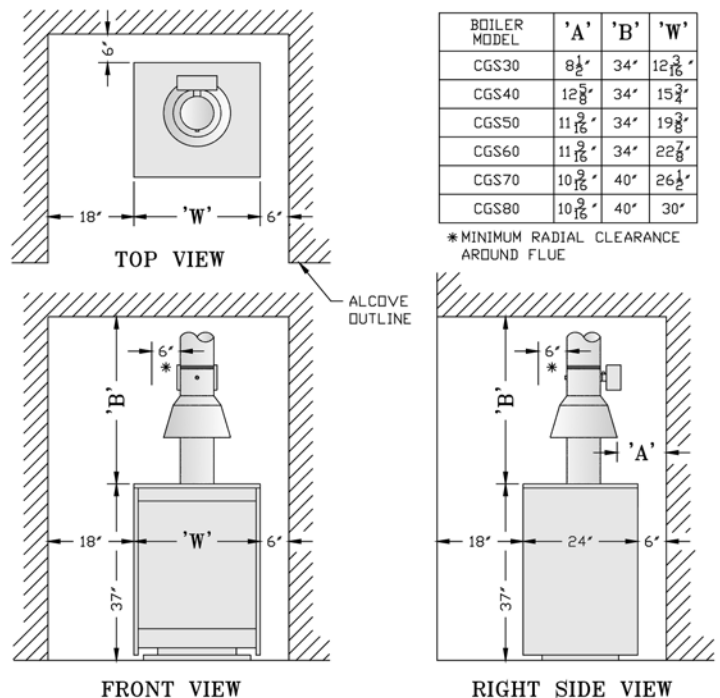

Figure 2: Minimum Clearances to Combustible Construction for Alcove Installation
- A. **Inspect shipment** carefully for any signs of damage. All equipment is carefully manufactured, inspected and packed. Our responsibility ceases upon delivery of boiler to carrier in good condition. Any claim for damage or shortage in shipment must be filed immediately against carrier by consignee. No claims for variances or shortages will be allowed by Boiler Manufacturer, unless presented within sixty (60) days after receipt of equipment.
- D. **Provide clearance** between boiler jacket and combustible material in accordance with local fire ordinance. Refer to Figure 2 for minimum clearance from combustible material for alcove installation.
3. Place boiler on base. Center boiler on base to provide minimum clearances to combustible walls and ceiling. See Figure 2.